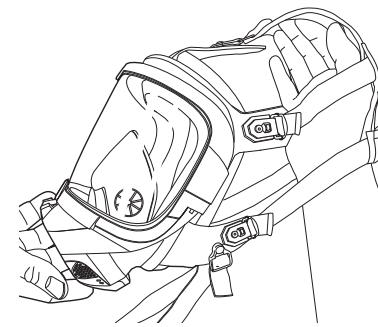

Fig. 27 Extending the straps of the head harness
- c. Fully extend the straps of the head harness in preparation for the next use (Fig. 27).